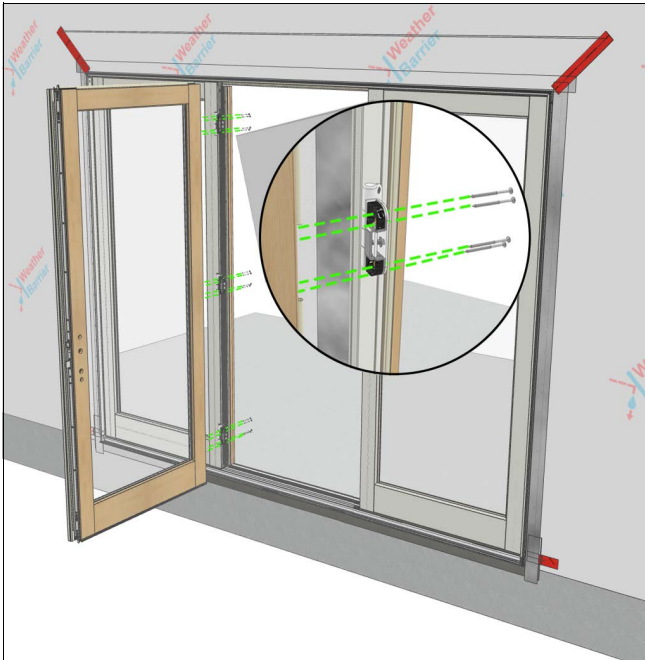

Figure 32
7. Fasten 4 x 2-1/2" matching screws are used to attach each hinge of the panel. Hinges are pre-applied to stationary panel on the swinging jamb. See Figure 32.